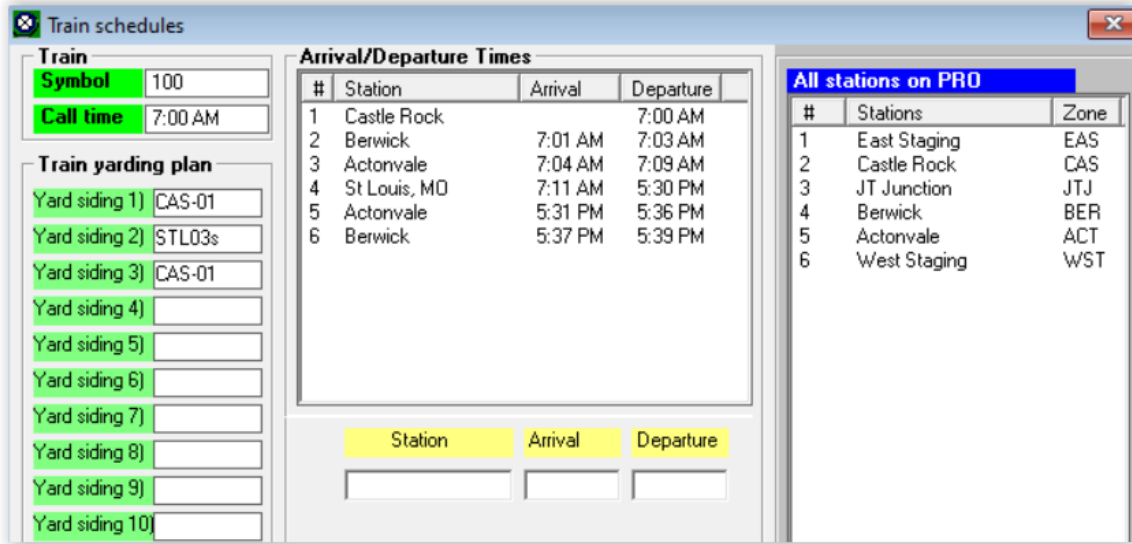

Figure 13-20d
- h. Enter the Actonvale and Berwick stops using the data from the table in step 6 above. Remember to switch the right hand panel back to "All stations" using the radio button. The resulting schedule is shown in Figure 13-20d.